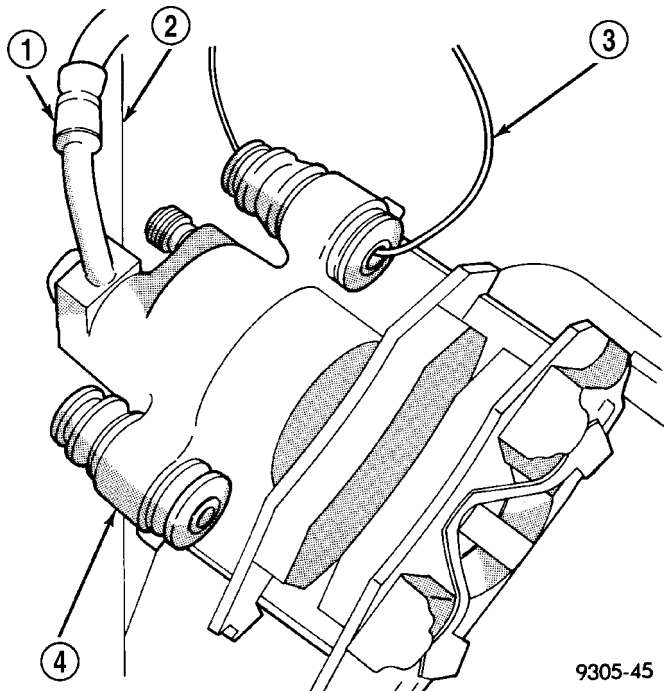

Fig. 42 Storing Caliper
(5) Support caliper assembly firmly from rear strut to prevent weight of caliper from damaging the flexible brake hose (Fig. 42).